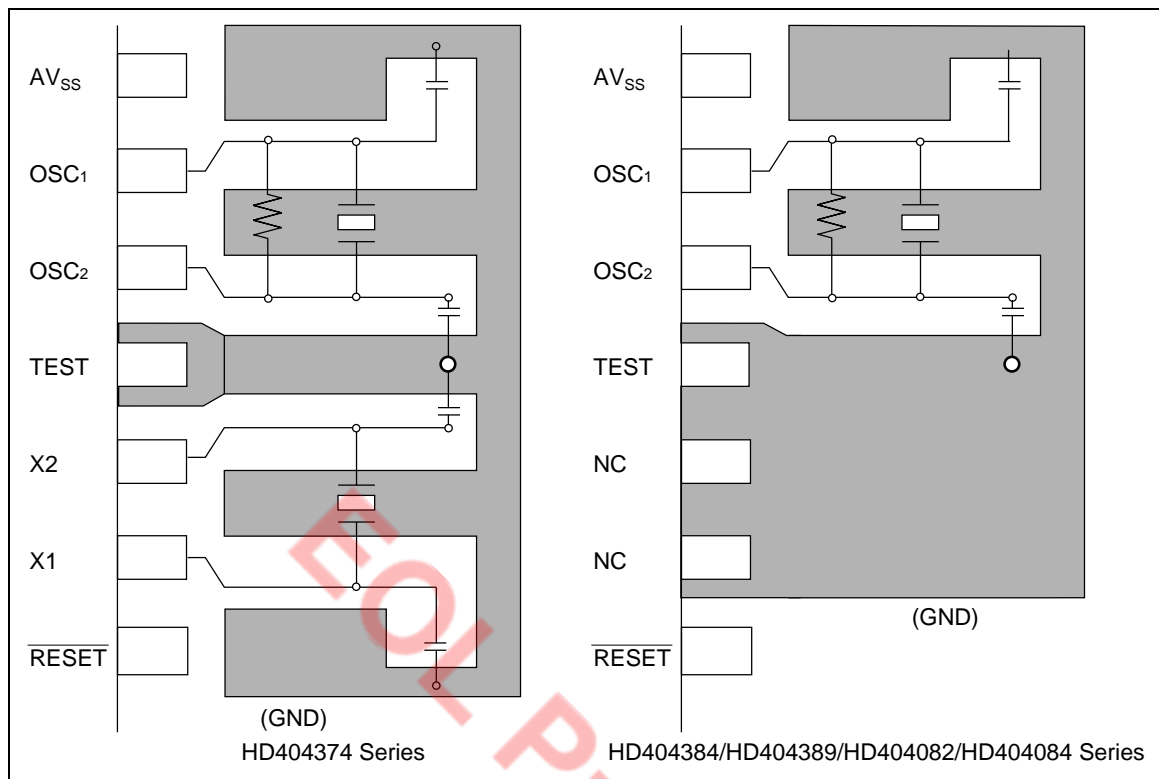

Figure 23 Typical Layouts of Crystal and Ceramic Oscillator
2. Make the connections between the OSC1 and OSC2 pins (X1 and X2 pins) and external components as short as possible, and ensure that no other lines cross these lines (see layout example in figure 23).